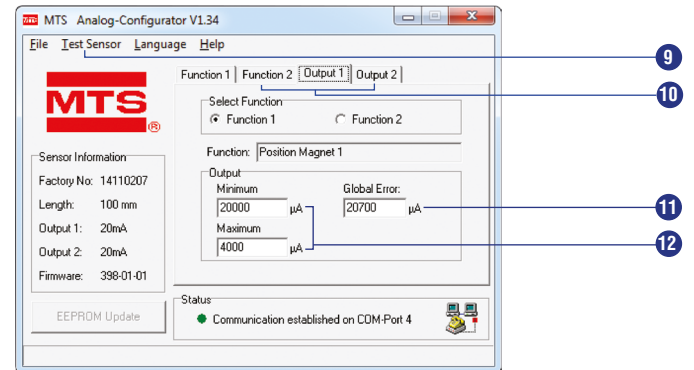

Fig. 43: Example of tab controls
- 12 Thereby, field **Output Minimum** indicates the current value which should be output at the starting point of the selected function. The output value pertaining to the end point must be specified in field **Output Maximum** (Fig. 43).